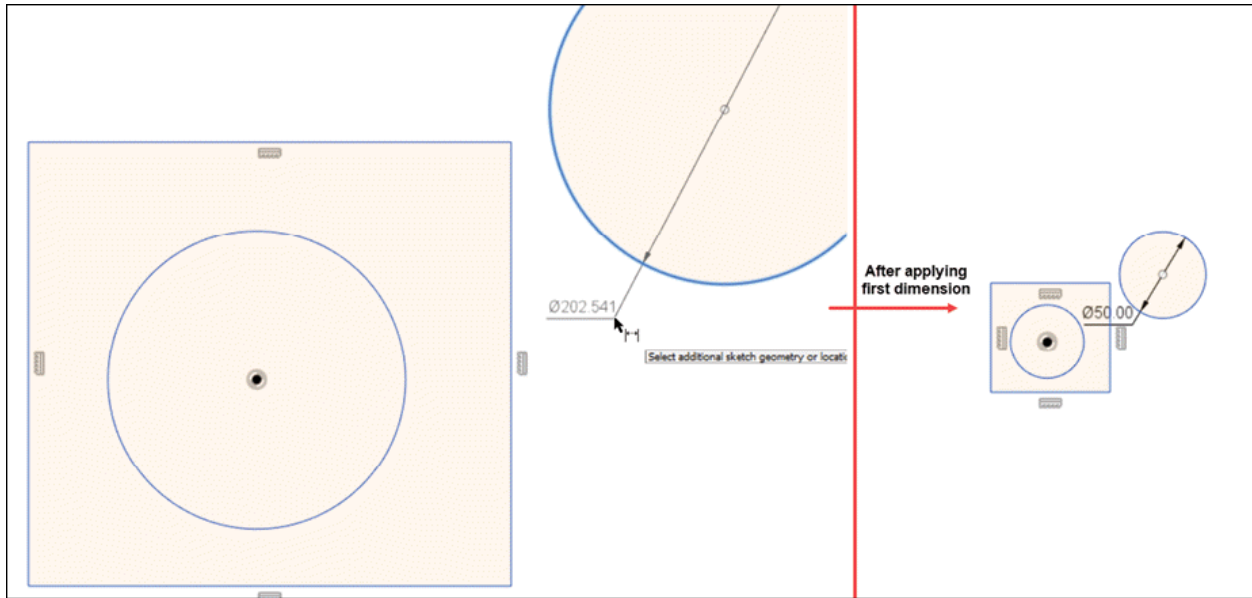

Figure-93. When scale entire sketch at first dimension check box is selected
- Select the **Scale entire sketch at first dimension** check box to automatically fit the sketch objects in view area with reduced dimensions after you specify first dimension of the sketch; refer to Figure-93. Note that all the other objects reduce in same ratio as the first dimension reduces its respective entity.